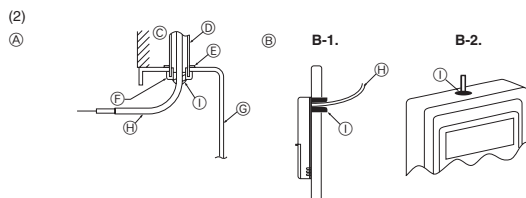

Fig. 6-3
(2) Seal the service entrance for the remote controller cord with putty to prevent possible invasion of dew drops, water, cockroaches or worms. (Fig.6-3)